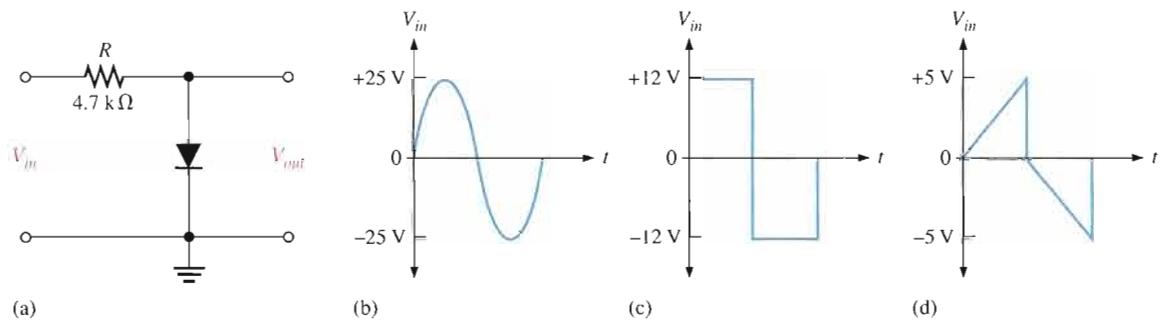

FIGURE 2-75
22. Determine the output voltage for the circuit in Figure 2-75(a) for each input voltage in (b), (c), and (d).